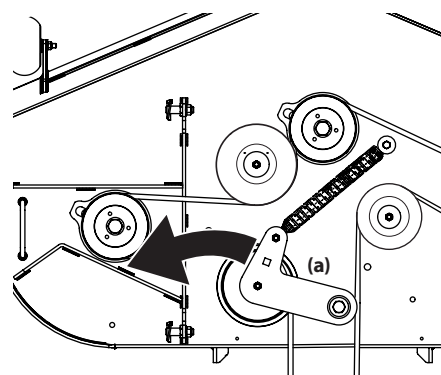
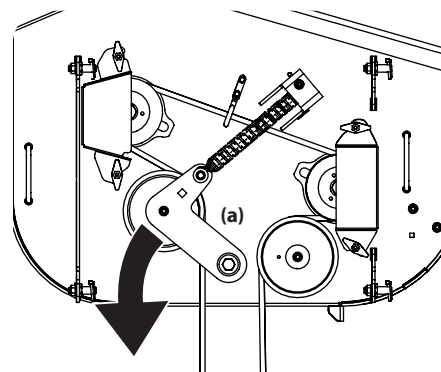

Figure 4-11
Figure 4-12
3. Using a 1/2" drive in the idler pulley bracket (a), turn the wrench counter-clockwise and slide the deck belt off the PTO pulley. See Figure 4-11 for 36" decks and Figure 4-12 for 48" and 54" decks.